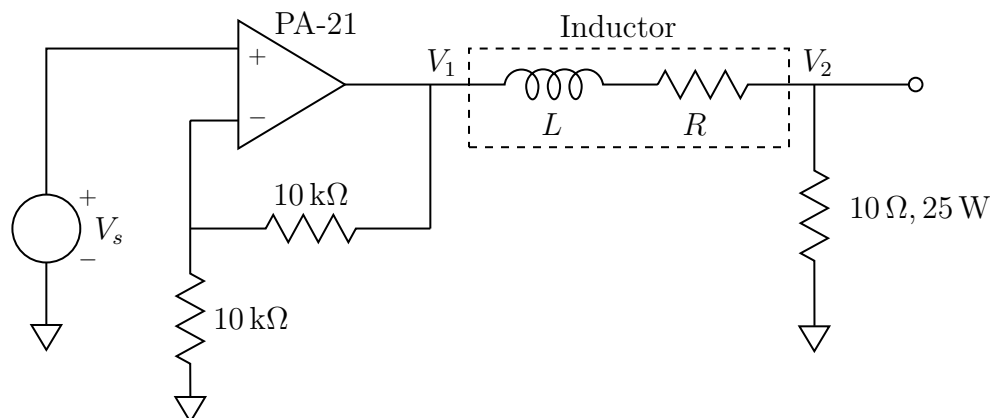

Figure 3: Amplifier with inductive load.
2. **Inductive load, voltage drive:** Now we will use the amplifier to drive an inductive load as shown in Fig. 3. Each station has an inductor which has been constructed from a small power transformer. Please keep each device at its original station. Do not move these around between stations! For the greatest consistency, you may want
As a start, use the multimeter to measure the coil resistance of your inductor. Also measure the resistance of the 25W power resistor you used in the previous section. These resistances become part of a model for the coil shown in Fig. 3. To complete the model, we need to measure the coil inductance. This can be done by measuring the step response from V_1 to V_2 . The time constant of this response, in combination with the resistances measured earlier yields an estimate of the coil inductance L . Measure the step response for a 0.1 A step on top of a 0 A bias and on top of a 0.5 A bias. Use the DC offset control on the signal generator to set the bias current level to the desired value. What estimate of L do you get at the two bias levels?